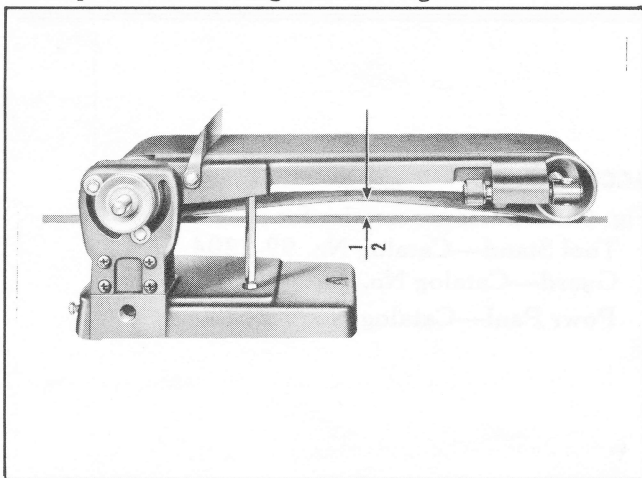

FIGURE 2
2. Apply belt tension by turning the two belt adjusting knobs clockwise. While applying tension keep the idler pulley approximately parallel with the drive pulley. When proper tension has been applied you should be able to deflect the belt, as shown in Fig. 2, approximately 1/2 of an inch.